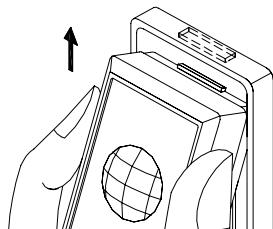
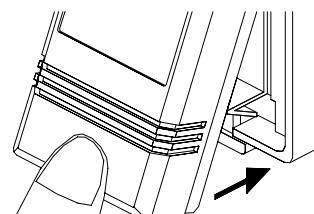

fig 4
fig 5
- ③ Install the transmitter case: hold the top portion of transmitter case with left hand (as fig 4) make About 10 degrees slant with wall cap then push to upper. When the protrusion transmitter case is Come into the concavity of wall cap with right hand (as fig 5). Upon hearing “KA”, the installation Is finished.